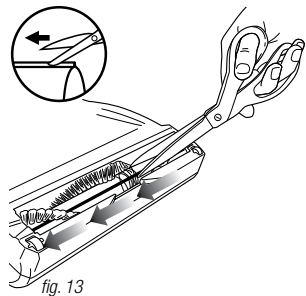

fig. 13
- Inspect the rotating brush for a build-up of debris. Remove anything wound around the brush by carefully cutting it with scissors. The brush roll is equipped with a raised cutting guide to make inserting scissors easier. Avoid damaging or cutting the bristles. (fig. 13)